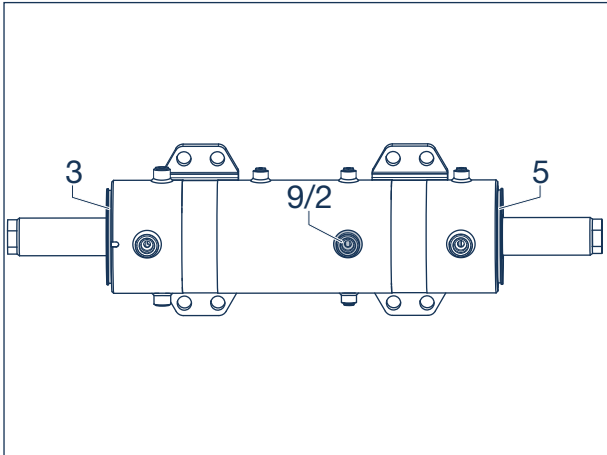

Figure 30
[9] From direction of the guide bushing complete (3) use an mounting aid (e.g. old O-ring, cyan colour on the Fig.30) to fill the groove of the retaining ring (8), thereafter insert the new O-ring (26).